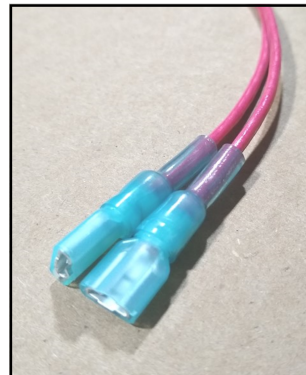

Fig. 5 (Female Push-on)
5. Uncoil the provided red wire. Strip approx. 1/4" of insulation from both ends of the red wire. Crimp and heat shrink a provided female push-on terminal to each end. See fig. 5.